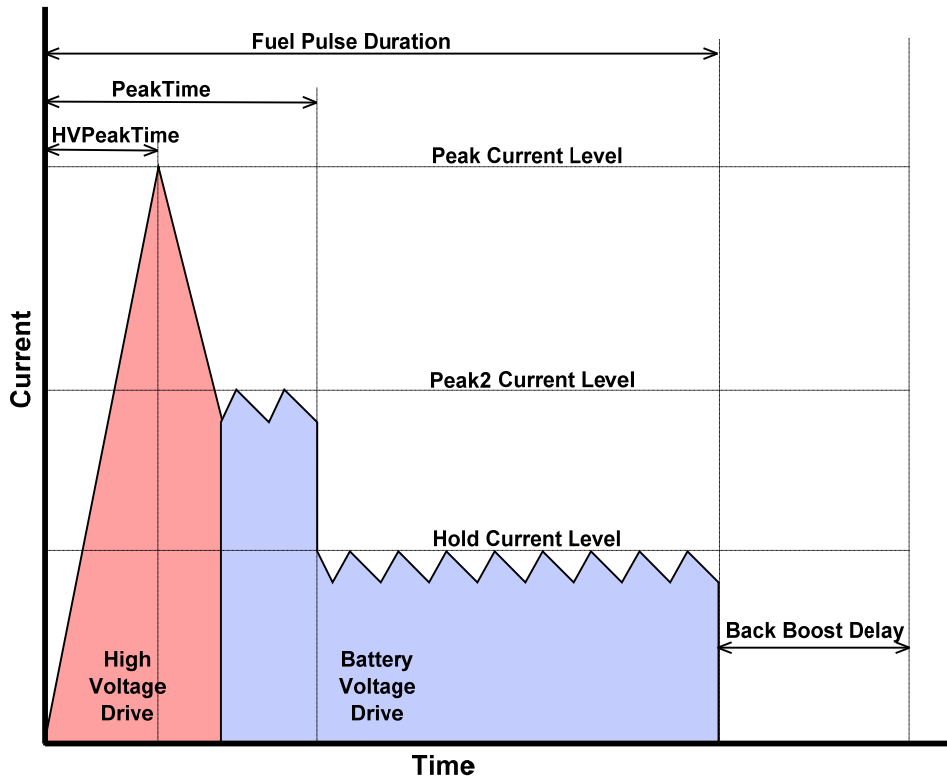

Figure 5. Injector solenoid current profile with labeled control parameters.
Step 3: Make calibration assignments. There are seven calibration parameters which we need to be concerned. Each one will be described below in reference to the current profile shown in figure 5. The six parameters contained within the UserCalParams cluster are parameters which are communicated once to the module upon setting the CalibrateNow Boolean. The PeakTime (msec) parameter, found on the Injection Control tab, is continuously communicated to the module.